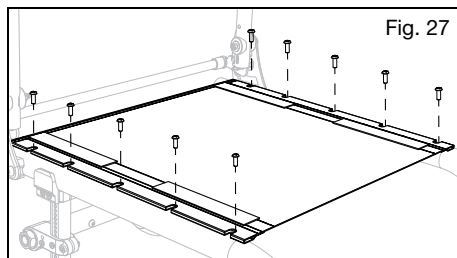

Fig. 27
- Loosen the Phillips head screws (Fig. 27) on the same side of the seat upholstery as the tension adjustable flap.
- Retighten the Phillips head screws (Fig. 27).
- Remove the 5mm Phillips head screws (Fig. 27) from the seat rails on each side of the frame and set aside.
- Replace the 5mm Phillips head screws (Fig. 27) by partially threading into place. Once all screws have been started, go back and tighten to secure.